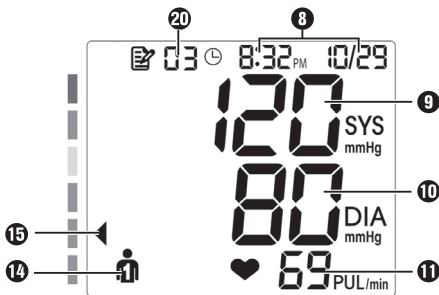

Fig. 1
- 3) Press the Memory button 3 ② to switch users.
- 4) Then press the Start/Stop button **2** **①** to confirm the user and start the reading.
- You can interrupt the reading at any time by pressing the Start/Stop button **2** **①**, and the cuff **23** will automatically deflate.
- When the reading has been completed successfully, the cuff **23** quickly deflates. The values for the reading appear in the display **1** as shown in Fig. 1: